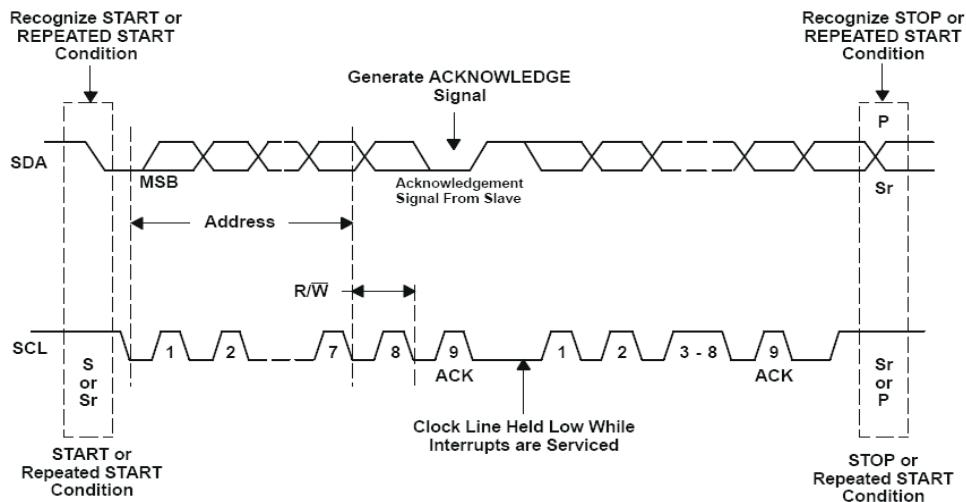

Figure 9-5. Bus Protocol
The master generates further SCL cycles to either transmit data to the slave (R/(W) bit = 0) or receive data from the slave (R/(W) bit = 1). In either case, the receiver needs to acknowledge the data sent by the transmitter. So an acknowledge signal can either be generated by the master or by the slave, depending on which one is the receiver. 9-bit valid data sequences consisting of 8-bit data and 1-bit acknowledge can continue as long as necessary. To terminate the data transfer, the master generates STOP condition by pulling the SDA line from low to high while the SCL line is high (see Figure 9-5). This releases the bus and stops the communication link with the addressed slave. All I2C compatible devices must recognize the stop condition. Upon the receipt of a stop condition, all devices know that the bus is released, and they wait for a start condition followed by a matching address.